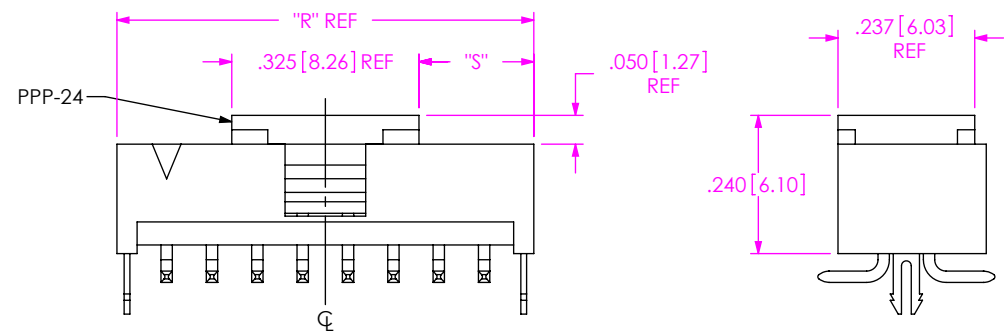

FIG 4
- P: PICK & PLACE PAD (USE PPP-24, SEE FIG 4, SHT 2) (-SM OPTION ONLY) (ONLY AVAILABLE IN 04-25 POSITIONS)